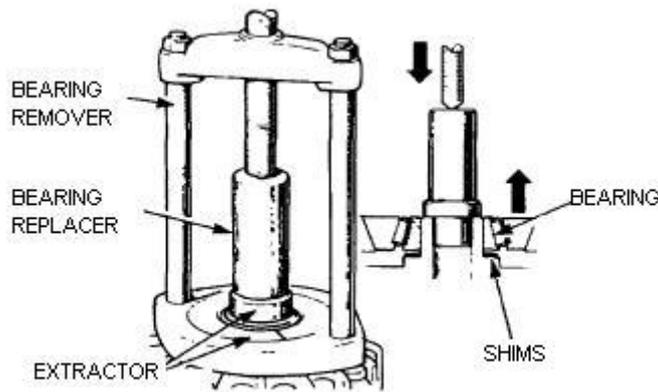

Figure 213 Removing the Differential Bearing
- g. Using the bearing replacer, extractor, bearing remover and adaptors (Table 3, Serial 45, 53, 38 and 48), remove the differential bearing cones and shims (Figure 213).